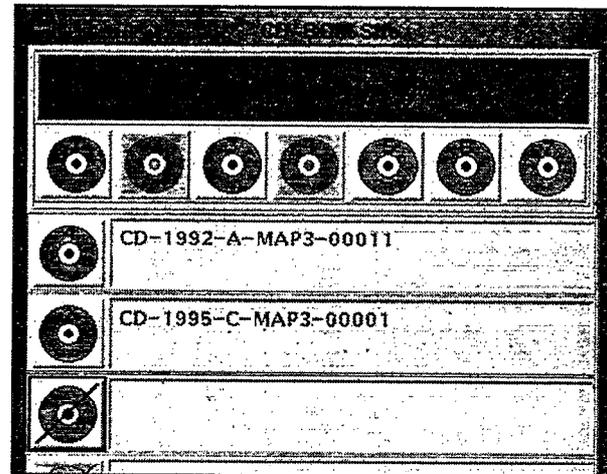

Fig. 78 — CDROM site window: switched priority of CD readers #2 and 4
- (6) The user can rearrange the order of the CDs in the list, if necessary. For example, when listing source CDs to be used in building an AODI, the order will dictate priority: the CD listed first gets top priority. This allows the user to properly overlap CAC sources with different edition numbers, since more recent data should get higher priority than older data. To reorder the CD list, click (with middle mouse button) and drag the desired CD number to its new location (Fig. 78).
- (7) When all required CDs are listed in the appropriate priority order, select *Start Processing* (at the bottom of the window).
- (8) Alternatively, select *Clear Readers* to start the process over or *Cancel* to cancel the operation and return to MMC.